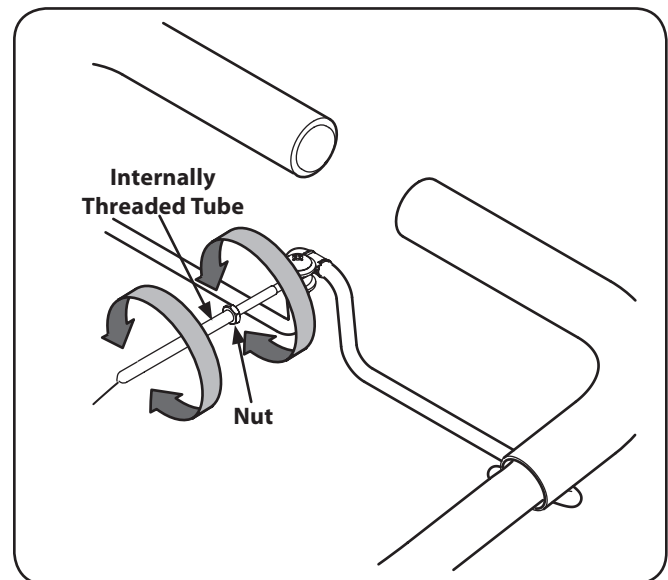

Figure 3-6
4. If the belt turns without the bail engaged, adjust it by unthreading the internally threaded tube at the end of the cable a few turns clockwise — when standing in the operator's position — and then retighten the nut against the tube. See Fig. 3-6.